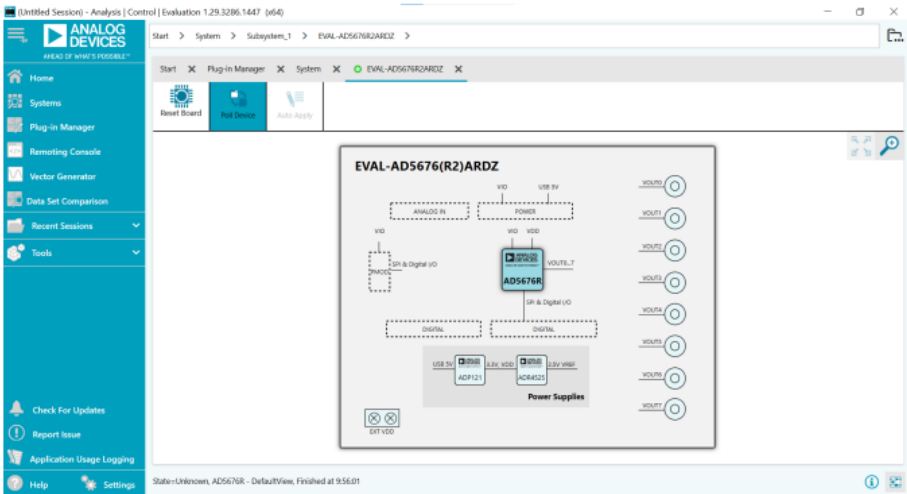

Figure 2. ACE Software Main Window
2. Run the ACE software, and the main window appears as shown in Figure 2. The EVAL-AD5675RARDZ or EVALAD5676R2ARDZ board plugins appear in the Attached Hardware section of the Start tab.